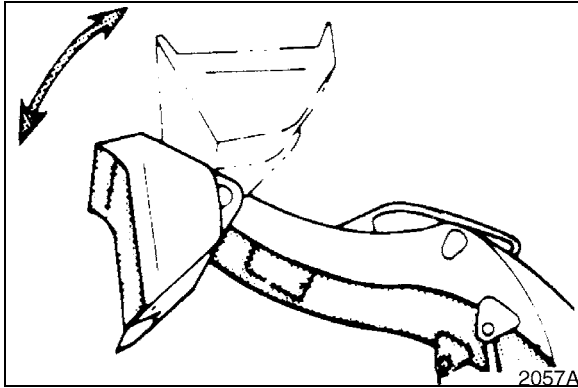
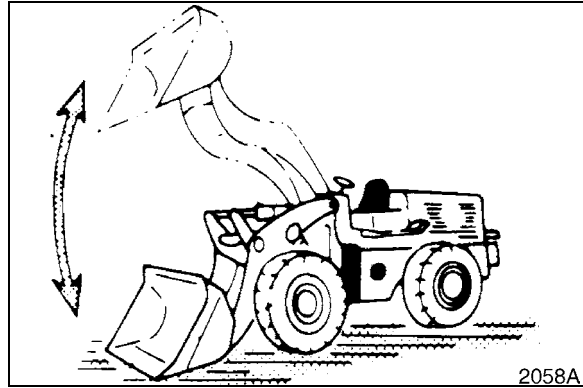

Figure 88
Figure 89
6. Start engine and operate controls to raise and lower bucket a few times. (Figure 88). Raise and lower boom a few times. (Figure 89). Lower bucket to ground.